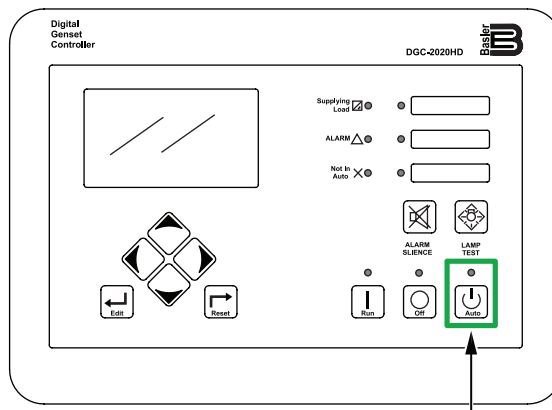

Figure 54. Digital Controller (Auto Button)
3. **On the first generator**, press the **Auto button** (Figure 54) on the digital controller.